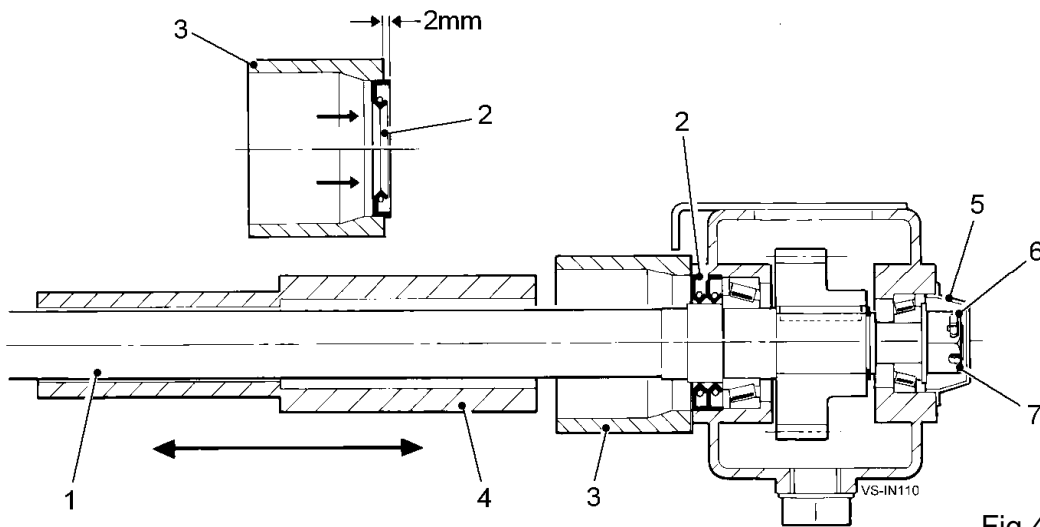

Fig 42
The roller shafts (item 1, fig 42) are each fitted with an oil seal (item 2, fig 42) which is press-fitted into the gearbox casing. The seals prevent loss of oil from the gearbox and also prevent the ingress of dirt. If leakage is apparent, the seals can be replaced in situ by using the guide sleeve and slide hammer service kit.
2. Prise out the worn seal (item 2, fig 42) taking care not to damage the seal aperture in the gearbox. Clean the seal aperture and the surrounding face of the gearbox.
4. Push the new seal into the compression ring (item 3, fig 42) until the seal protrudes approximately 1-2mm beyond the ring face (see fig 42). Slide the compression ring complete with seal over the roller shaft (item 1, fig 42) and locate the seal into the aperture.
5. Locate the slide hammer (item 4, fig 42) over the roller shaft and, holding the compression ring and seal firmly against the gearbox face, bump the seal into the gearbox. If required, a second seal can be fitted behind the first to give additional backup.